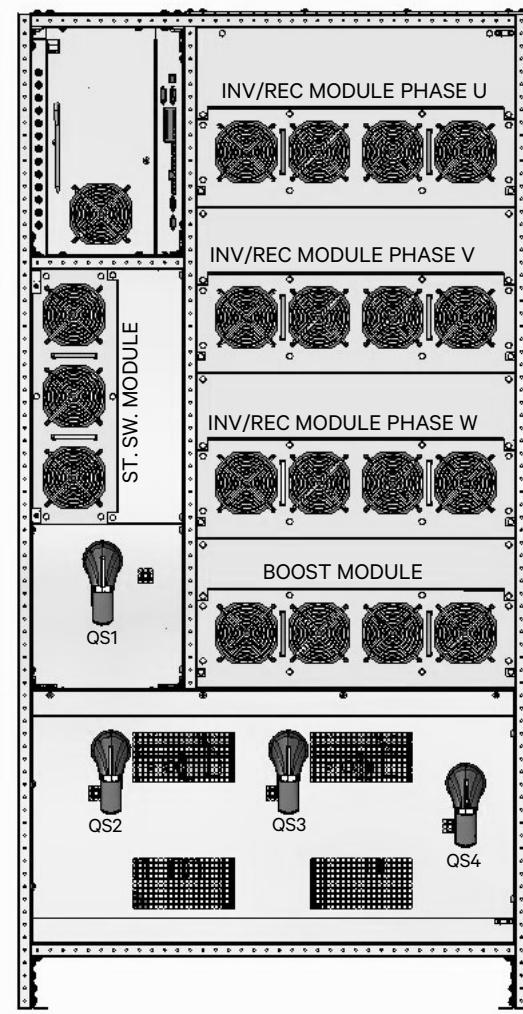
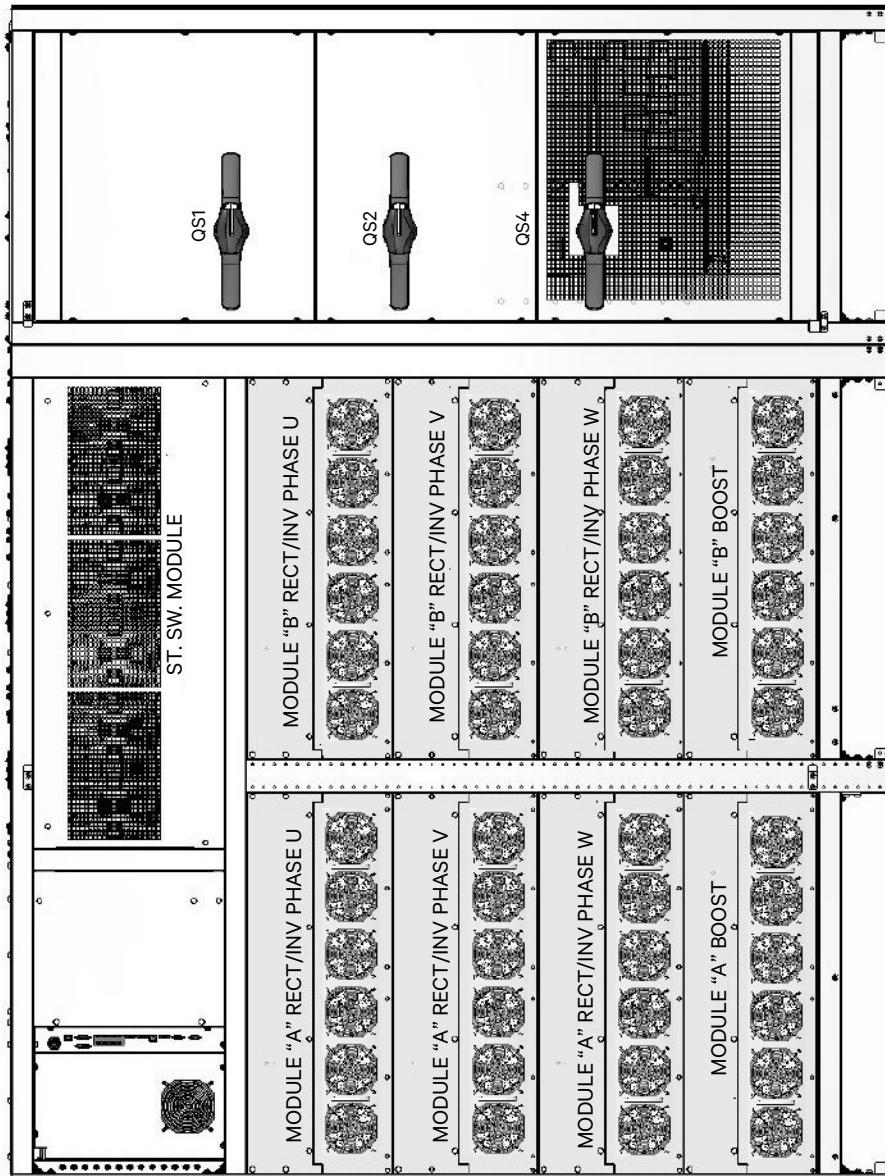

Figure 19 - Liebert EXL S1 300/400kVA - front view
Figure 22 - Liebert EXL S1 1000/1200kVA - front view
To access the external electrical connections, open the front door of the UPS and remove the secondary access panel (see Fig. 19-Fig. 22). Connect the ground cable (PE) first at .